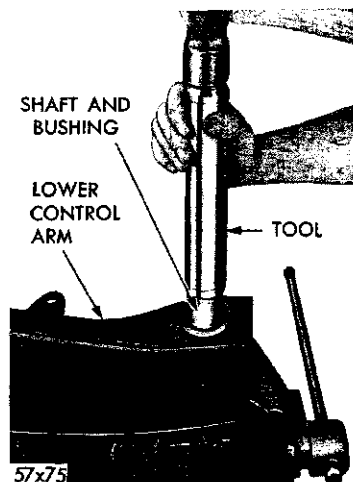

Fig. 12—Installing the Lower Control Arm Shaft Assembly
(1) Position the new bushing over the shaft (flange end first) and seat on the shoulder of the shaft. Install the washer and nut, then tighten to 100 foot-pounds torque. (Hold shaft securely in a vise with protector jaws). Install the cotter pin.
(2) Press the lower control arm shaft and bushing into the lower control arm with an arbor press, or drive into place using Tool C-3556 for Models TC-1, TC-2 and TC-3 or Tool C-3557 for TY-1, and a hammer (Fig. 12).
(3) Press until the flanged position of the bushing is seated, beyond the locking groove.
(4) Thread the ball joint into the new arm using